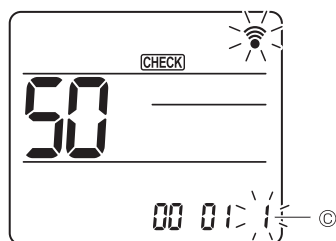

Fig. 4
Use the **↓** button to change the Setting number ③. (Fig. 4)